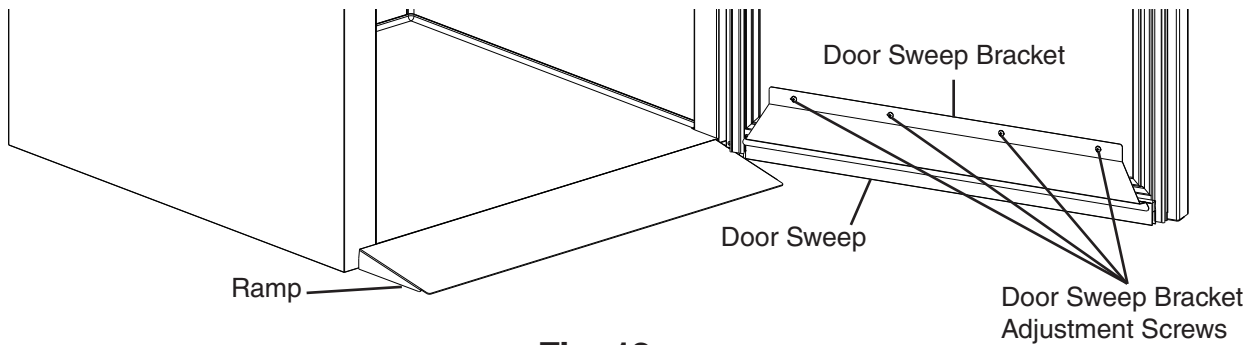

Fig. 12
4) Loosen the door sweep bracket adjustment screws. See Fig. 12.